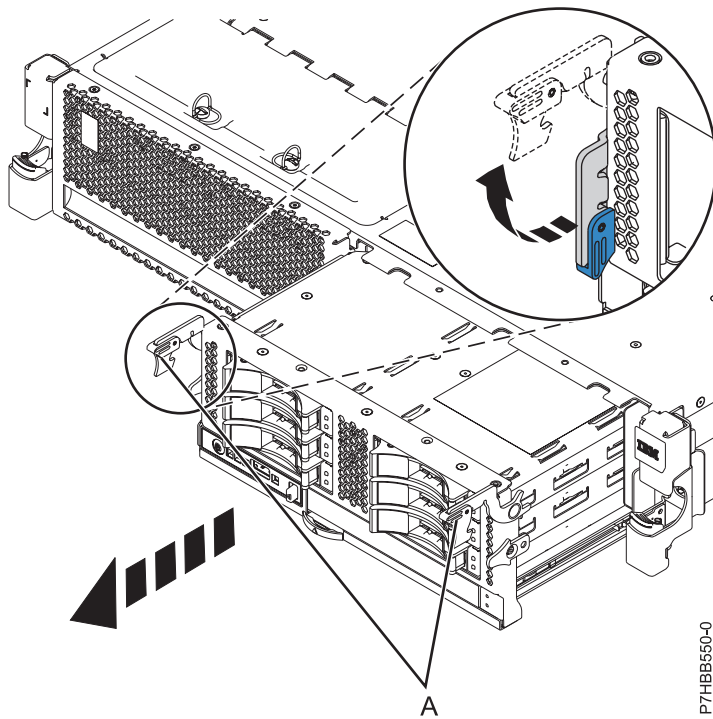
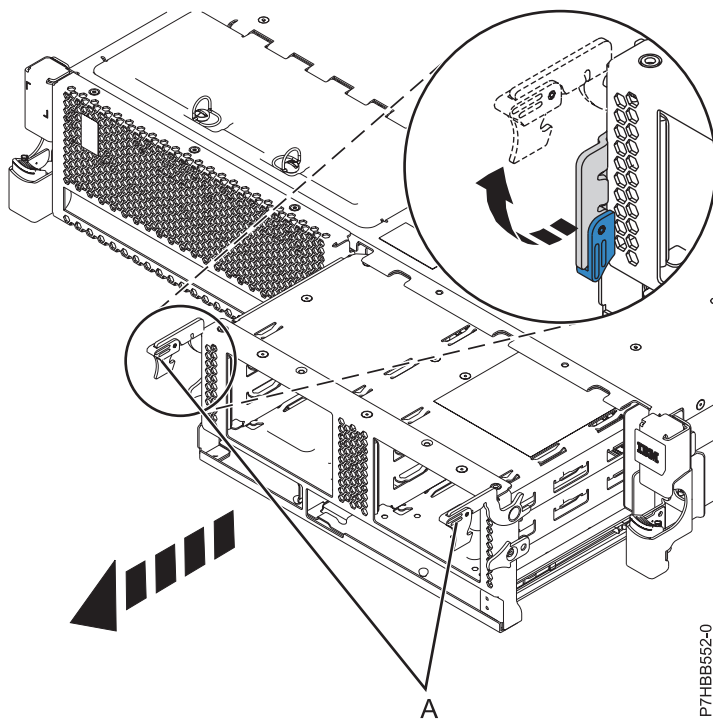

Figure 20. Removing the backplane populated with disk drives
Figure 21. Removing the backplane that is not populated with disk drives
13. Unlock the disk drive backplane by pulling the handles (A) open from the center of the backplane as shown in Figure 20 and Figure 21.